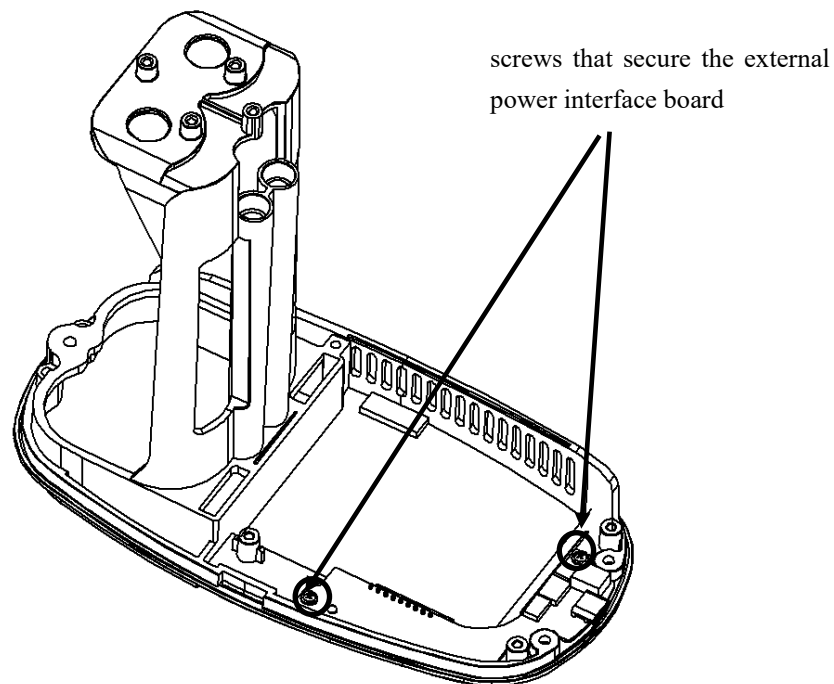

Figure 21 Replace the external power interface board
1. Use a cross-head screwdriver to unscrew the four screws that secure the external power interface board, and remove the external power interface board (Refer to Figure 21).